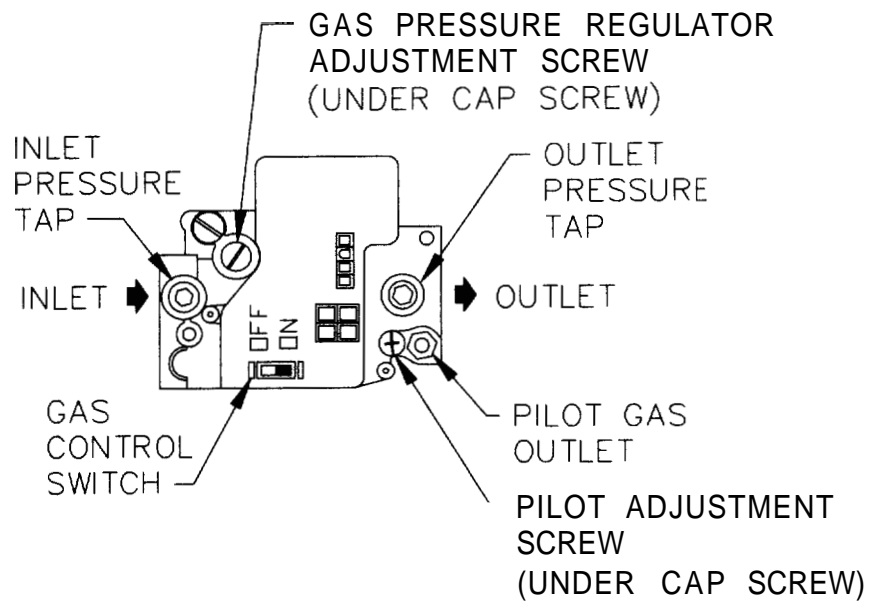

Figure 20: Valve Tapping and Adjustment Screw Locations
2. To adjust gas pressure, turn adjusting screw of gas pressure regulator counterclockwise to decrease pressure, clockwise to increase pressure. Refer to Figure 20 for location of gas pressure regulator. Replace the cap screw when adjustment is complete.
8. Connect a manometer to the 1/8" npt inlet pressure tap on the **gas** valve. See Figure 20.